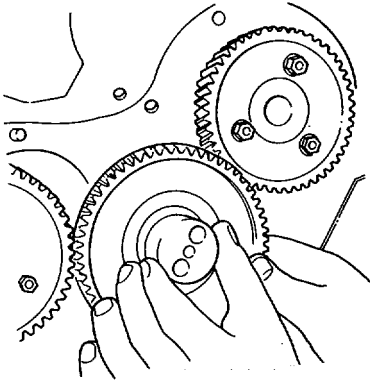

Figure 5-29. Idler Gear Installation.
- (2) Insert the hub (4, Appendix F, Figure 56) (see Figure 5-29) so that the holes in the hub and the cylinder block are aligned. Secure with two setscrews (1).